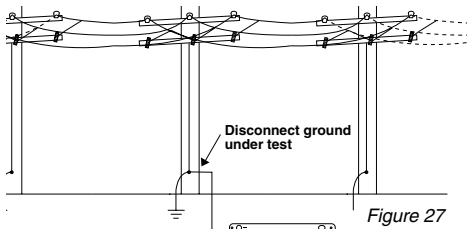

Figure 27
B) If the previous method fails, try changing the alignment of the auxiliary cables so that they are not parallel to power lines above or below the ground. (Figure 27)